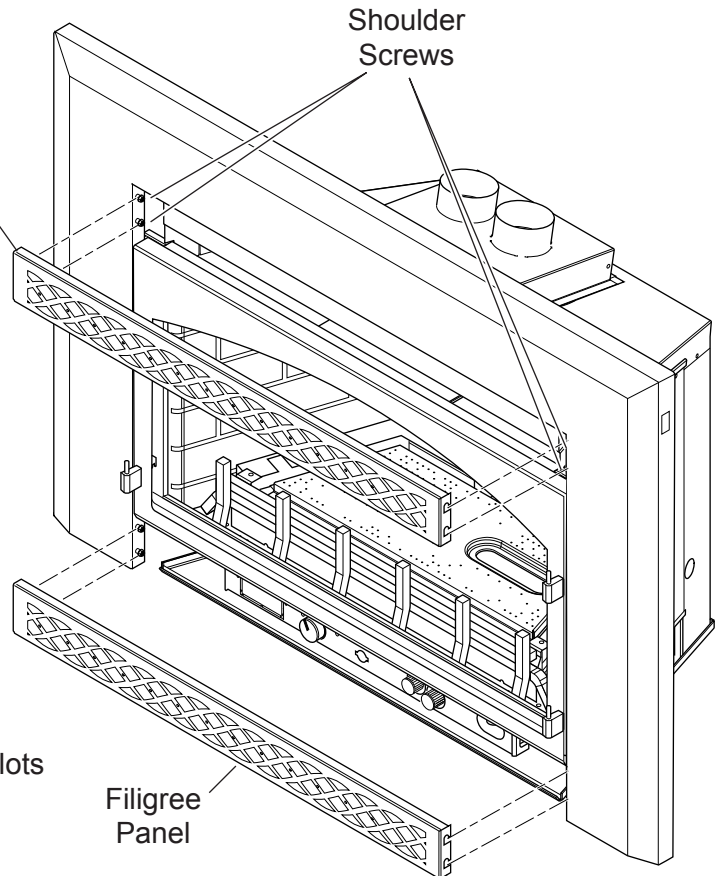

Figure 30 - Installing Filigree Door Panels
2. Slide top filigree panel on to four (4) shoulder screws located on the top of the surround. Slide bottom filigree panel on to four (4) shoulder screws located on the bottom of the surround. *See Figure 30.*